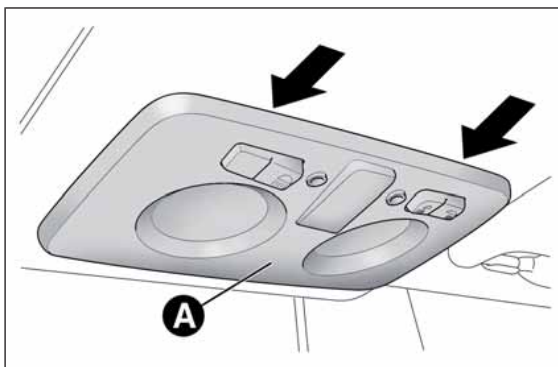
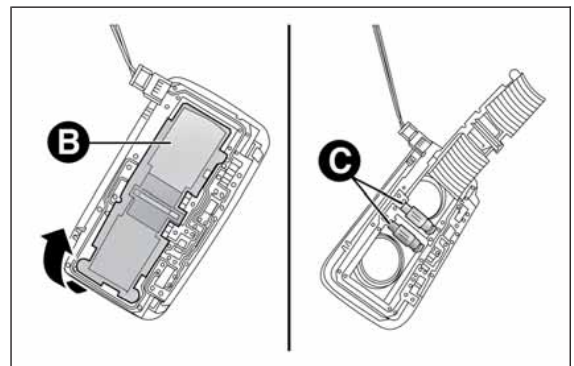

fig. 141
fig. 142
- remove the roof light A fig. 141 working at the points indicated by the arrows;
- open the flap B fig. 142 and replace the bulbs C releasing them from the side contacts. Make sure that the new bulbs are correctly secured between the contacts;
- reclose the flap B fig. 142 and fix the roof light A fig. 141 in its housing making sure that it is locked.